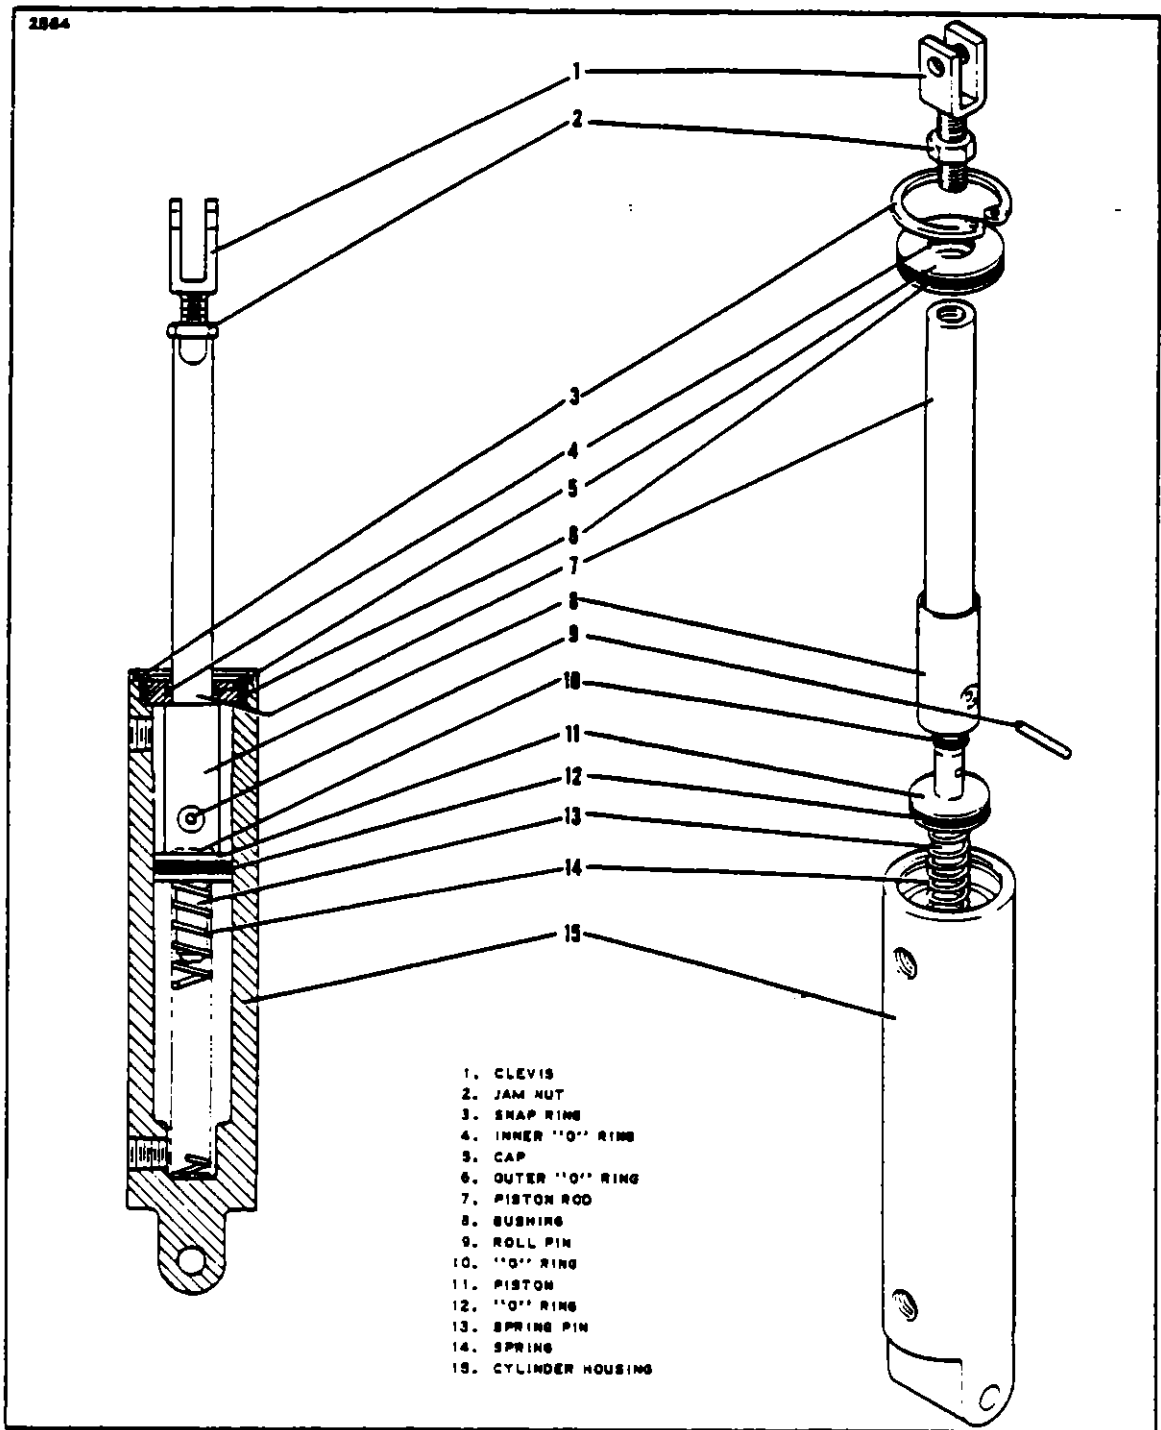

FIGURE 6-35. BRAKE MASTER CYLINDER PA-24-180 and PA-24-250
**6-91. Disassembly Cleaning, Inspection And Repair Of Brake Master Cylinder. (Refer to Figure 6-35.)**
- a. Disassemble the master cylinder by removing the snap ring (3) at the top of the cylinder and extracting the plunger assembly from the housing.
- b. Remove the piston head (11), spring pin (13) and bushing (8) from the rod (7) by driving out the roll pin (9).
**6-92. Assembly Of Brake Master Cylinder. (Refer to Figure 6-35.)**
- a. Lubricate with hydraulic fluid and install the inner and outer "O" rings (4 and 6) on cap and slide assembly on piston rod (7).
- b. Slide the bushing (8) over the rod and the piston head (11) over the spring pin (13).
- c. Install "O" ring (10) on end of piston rod.
- d. Insert the spring pin (13) into the rod and secure with roll pin (9).
- e. Install spring (14) on end of spring pin.
- f. Slide the plunger assembly into the cylinder housing and secure with snap ring (3).